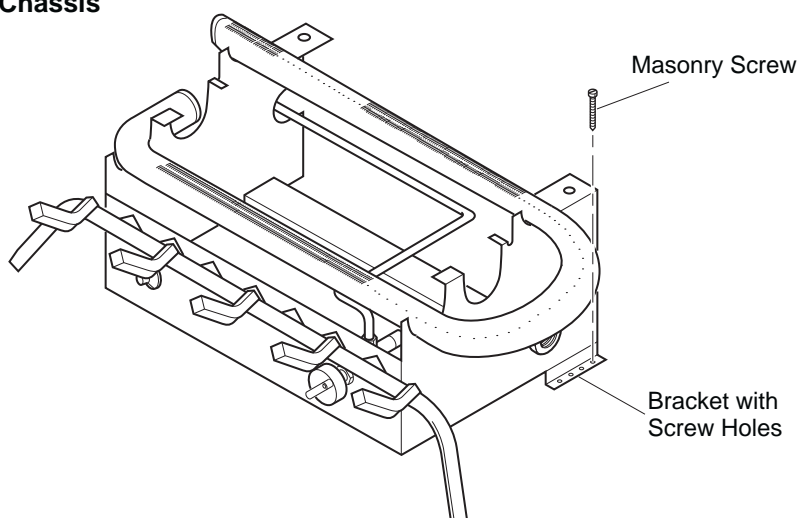

Figure 12 - Attaching Base Assembly to Fireplace Floor
7. Mark screw locations through one hole on each side of the mounting bracket (see Figure 12). If installing in a brick-bottom fireplace, mark screw locations in mortar joint of bricks.